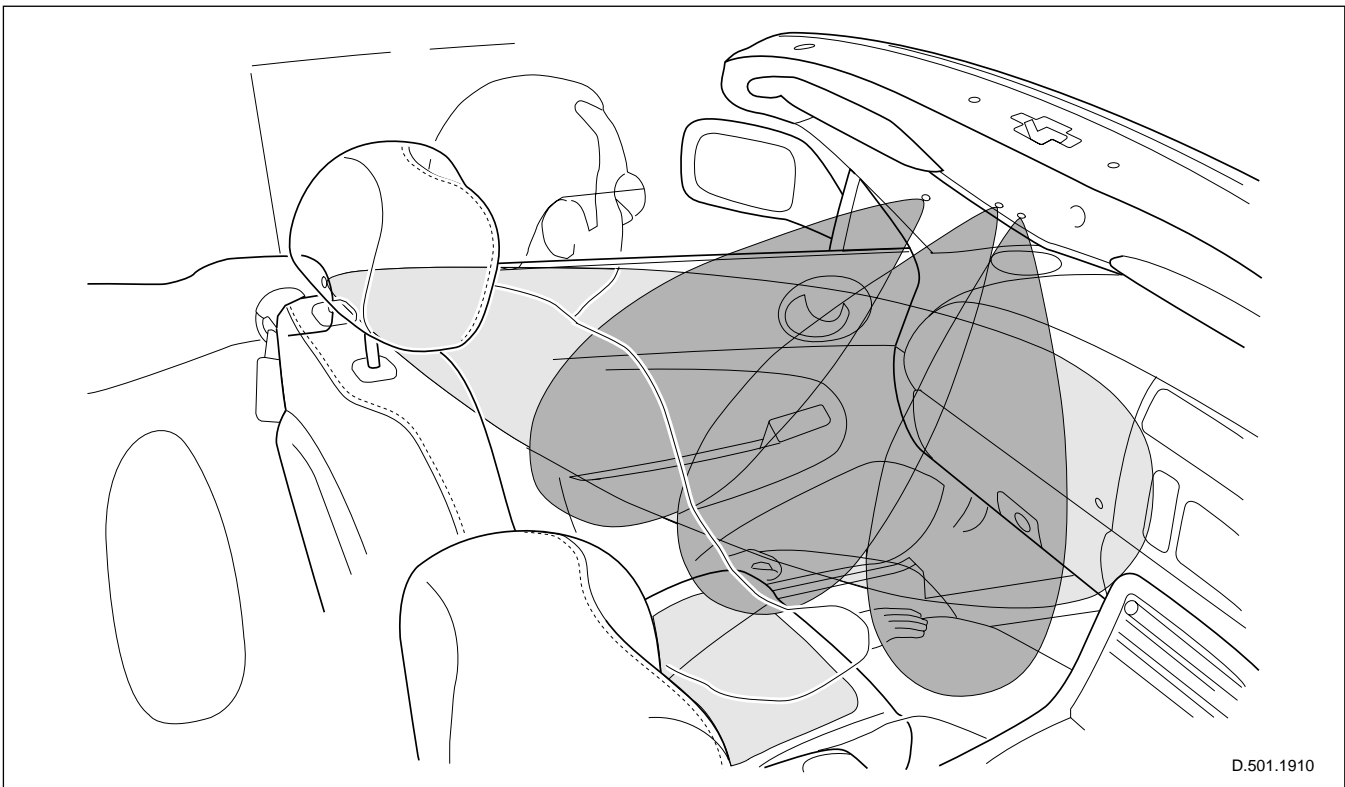

Fig. 32 Occupancy sensors - coverage
- The four sensors are strategically placed to detect the presence and movement of the front passenger seat occupant. Fig. 32 shows the approximate area of coverage provided by the sensors.